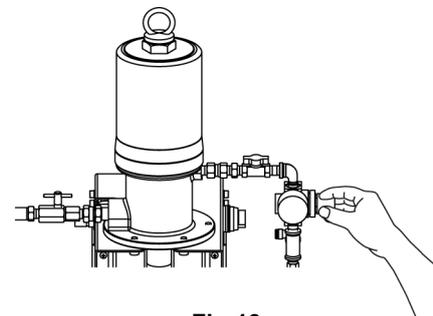

Fig.13
- 2) Adjust the air regulator for the pump to set the pressure supplied to the pump to 0.2MPa to 0.7MPa. (Fig.13)